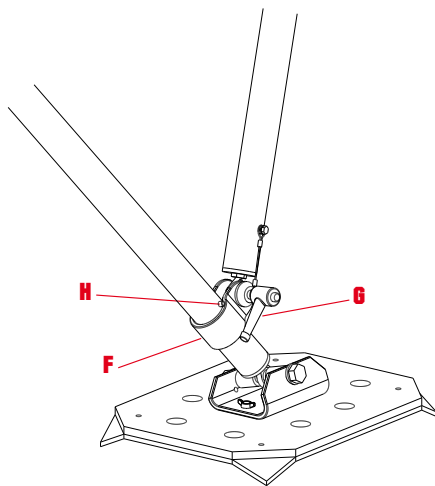

fig. 6
- e) Place the collars (F) against the elastic reference marker (H) and fix them by means of the lever lock (G) - (fig. 6).